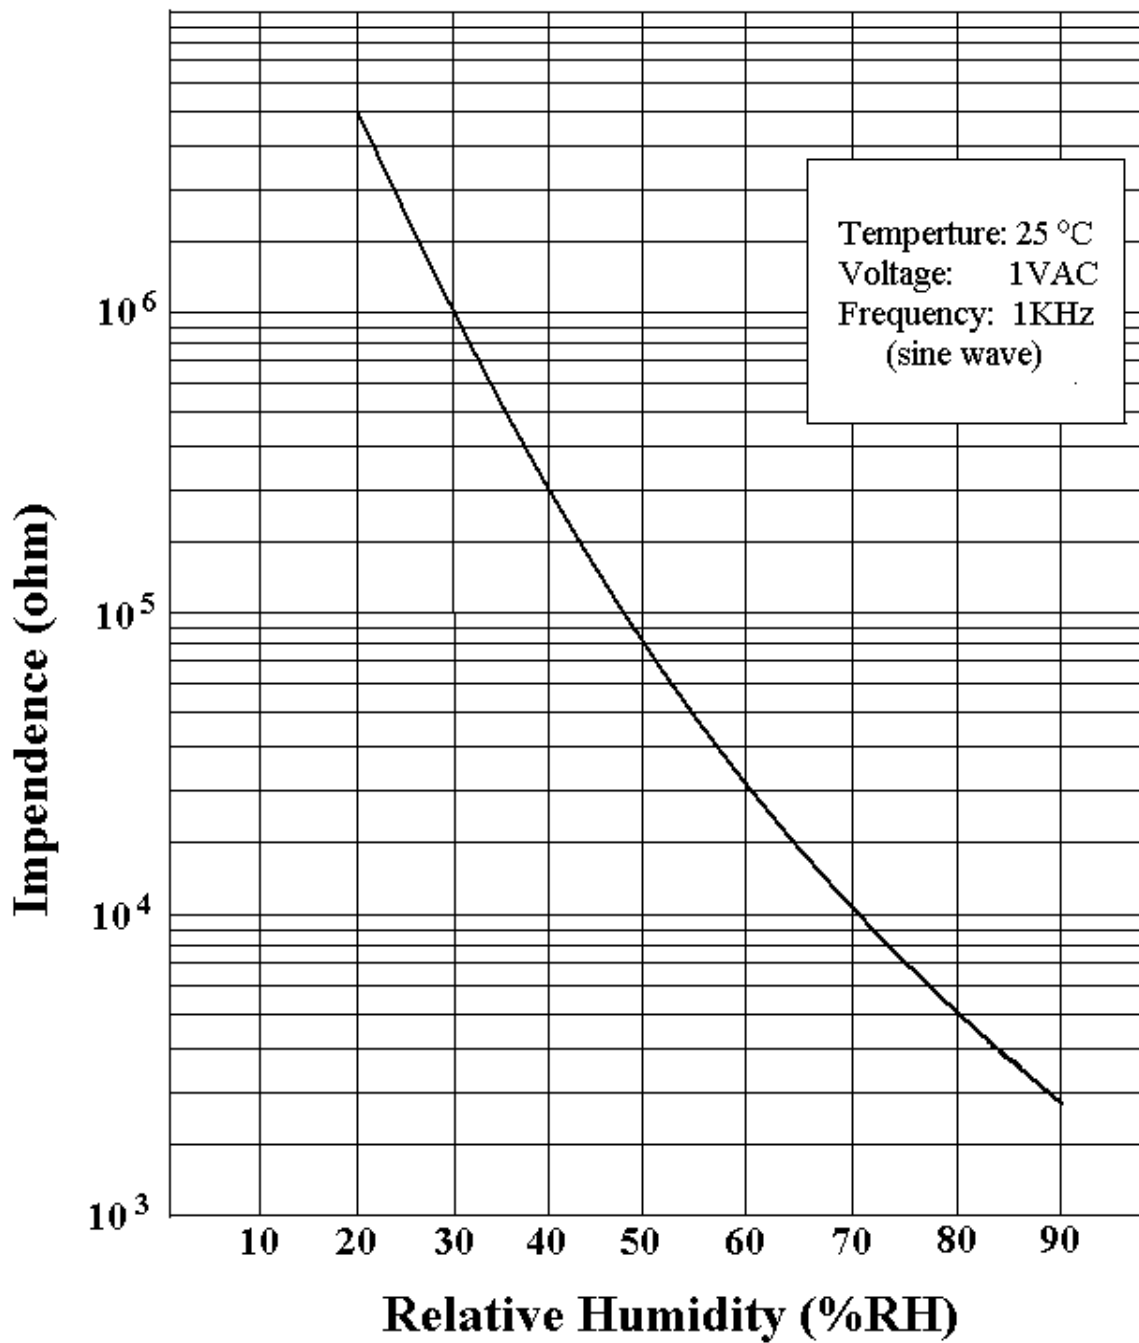

Fig.1 Typical Sensitivity Characteristics
- 11) Typical sensitive characteristics : Shown in Fig.1